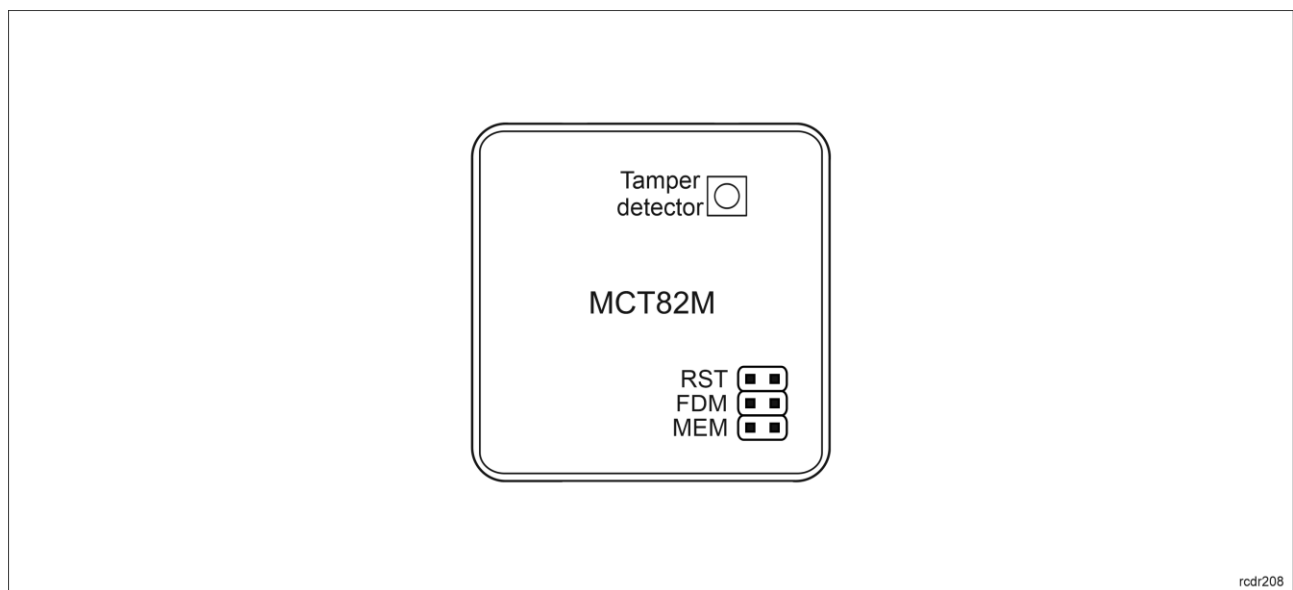

Fig. 6 Programming jumpers
Built-in tamper (sabotage) detector enables detection of unauthorized opening of device's enclosure as well as detachment of the enclosure from wall. The detector is internally connected to the terminal's input. It does not require low level configuration or any additional installation arrangements but it is essential to mount front panel in such way as the tamper detector (fig 6) would firmly press the back panel. The detector requires high level configuration which consists in assignment of the function [133] *Tamper Toggle* on the level of a *Main Board* of a controller in VISO software navigation tree.
- Front panel should be attached in such way as the tamper detector (fig. 6) would firmly press the back panel.
In RACS 5 v2 system the reader can be installed at site without previous configuration. According to AN006 application note, its address and other settings can be configured from VISO v2 management software and during such configuration the access to its service contacts (fig. 6) is not required.
2. Remove jumper from MEM contacts (fig. 6) if it is placed there.
2. Place jumper on MEM contacts (fig. 6).